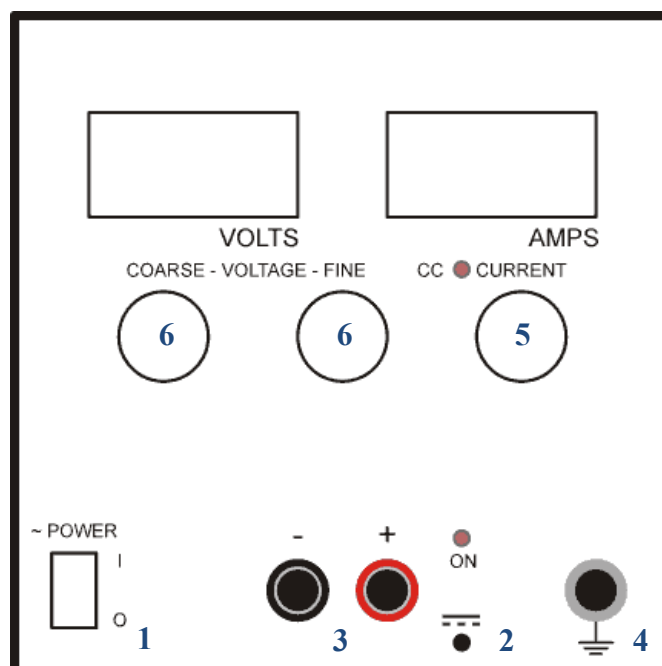

FIGURE 2:Bench mains power supply unit
-  *Either print or copy FIGURE 2 into your logbook twice to represent the two supplies on your desk. Sketch the connections between the PSU terminals needed to provide voltages of +9V, 0V and -9V.*